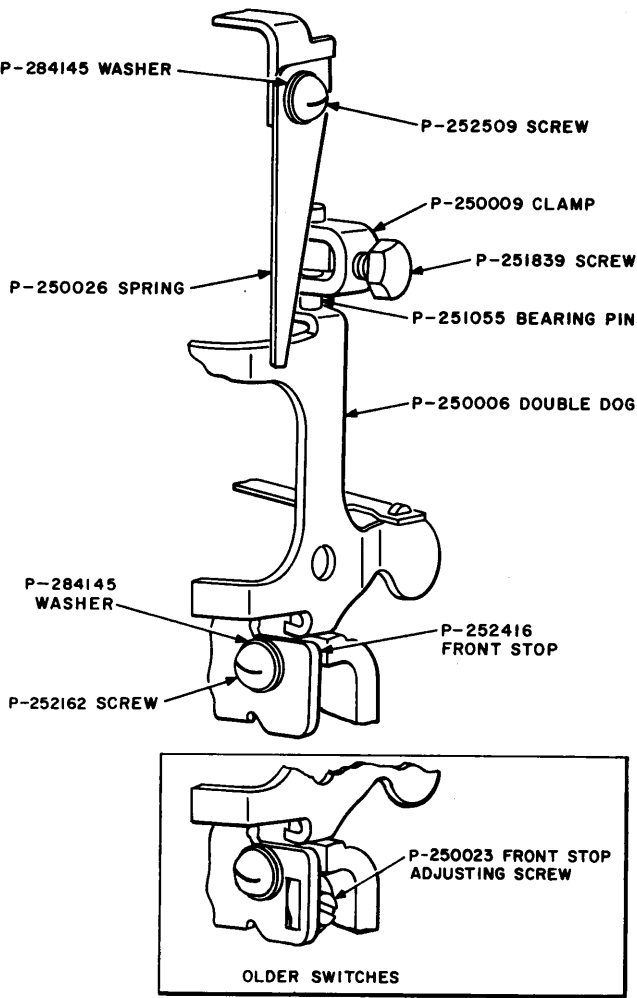

Fig. 12—Double Dog and Associated Parts
- (1) To revise Fig. 12 and 20
- (2) To add a Note
- (3) To add changes from Addendum 1, Issue 7
- (4) To make minor changes as required.